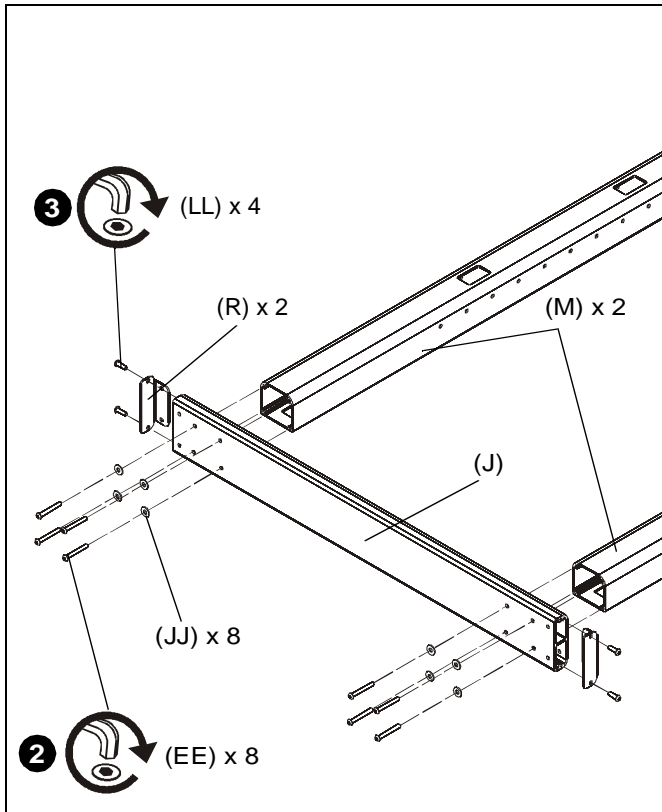

Figure 1
1. Lay two cart array columns (M) down on a flat surface.
2. Use eight 5/16-18 x 2 1/2" button head cap screws (EE) and eight 5/16" washers (JJ) to connect cross bar (J) to columns (M). (See Figure 1)
3. Use four 5/16-18 x 1/2" button head cap screws (LL) to attach two end brackets (R) to cross bar (J). (See Figure 1)